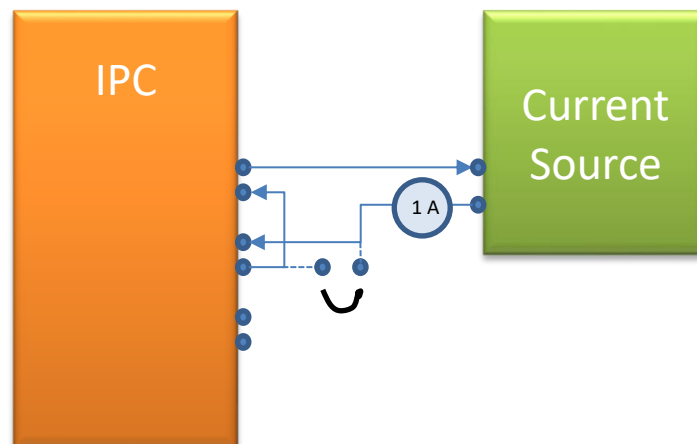

Figure 19. Current injection in two opposing phases.
- a. Inject current with a one or three phase instrument. Check the indications for each function of the front panel of the device, in the *Site manager*, in the *Event log* and, if possible, in the remote control end. See Figure 19.